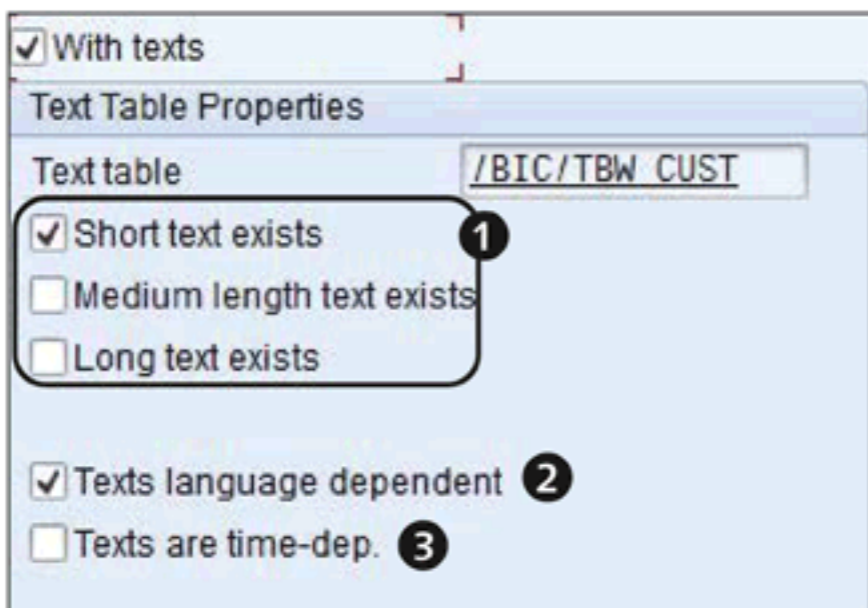

Figure 3.16 Configuring Texts for InfoObject
Let's explore some of the more important fields of the `TEXT TABLE PROPERTIES` area (Figure 3.16), which become editable when you check the `WITH TEXTS` box.
By default, the SAP NetWeaver BW system chooses the `SHORT TEXT EXISTS` flag (1 of Figure 3.16) and the `TEXTS LANGUAGE DEPENDENT` flag (2). This indicates, respectively, that the system receives and stores only short text for the InfoObject, and that the text can be in different languages.
Figure 3.16 shows that you have three options for storing text information:
Another important setting in this tab is the TEXTS ARE TIME-DEP. box (3 of Figure 3.16). Imagine a scenario where a customer has changed his name, and the new name of the customer is valid from a particular date. Assume that you've already loaded master data for this customer (along with textual information). If this box isn't checked, and you load the same customer master data with the new name, the old name is overwritten by the new name. Our case study requires you to analyze sales data for both the new name and the former name based on the period of analysis (i.e., before the change and after the change). This requirement is met by selecting this checkbox.